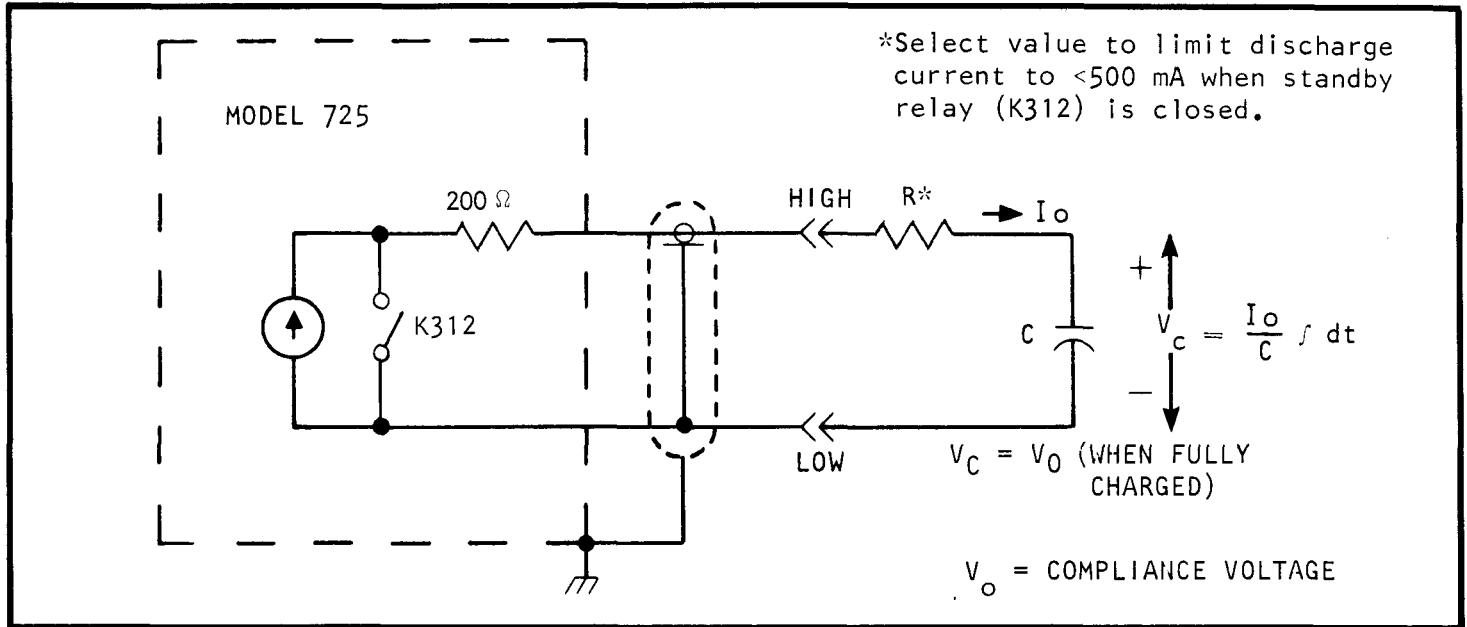

FIGURE 2-7. Capacitive Load.
2. Capacitive Load. The instrument can also be used to charge a capacitive load as shown in Figure 2-7. The capacitor will charge to the compliance voltage.